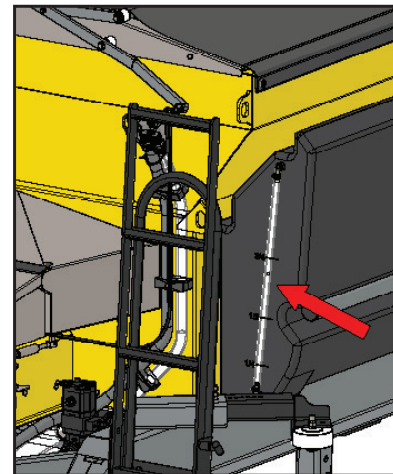

Figure 4 - Liquid Tank Gauge
5. Figure 4 - Fill tanks to the desired amount indicated by sight gauge attached to rear of right tank.